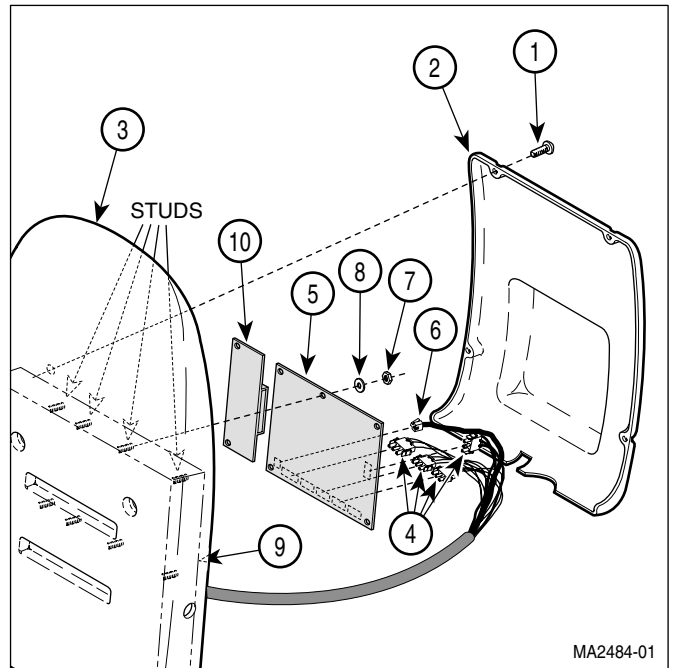

Figure 4-6. PC Control Board / Program PC Board
- (1) Unplug power cord from wall outlet.
- (2) Remove four screws (1, Figure 4-6) and back cover (2) from plastic back section (3).
- (3) Tag and disconnect four wire harnesses (4) from PC control board (5).
- (4) Disconnect cord set (6) from PC control board (5).
- (5) Remove seven nuts (7) and lockwashers (8) from studs of back weldment (9).